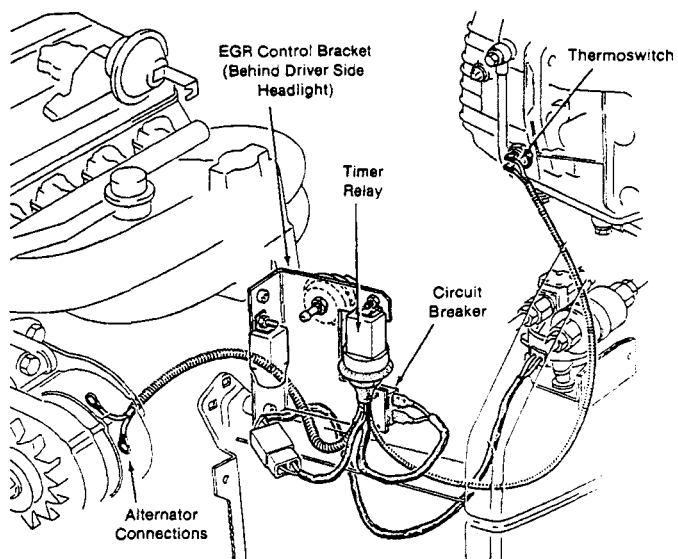

Figure 3
6. The system's electrical supply is connected directly to the alternator. It is protected by a 20-amp circuit breaker, which is also mounted on the EGR Control bracket (See Figure 3.)